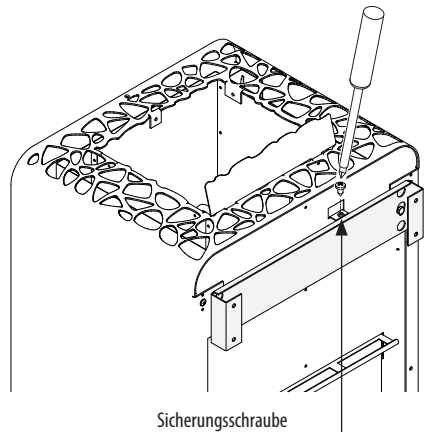

Fig. 7
- Secure the sauna heater to the wall bracket by inserting a sheet-metal screw through the hole positioned at the rear edge of the heater. (Fig. 7)